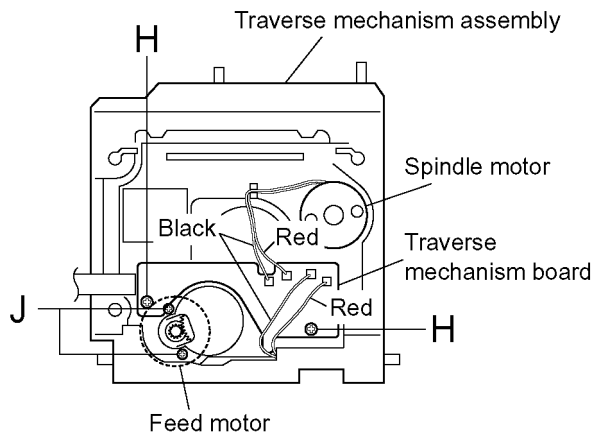

Fig.2-29
2.3.7 Removing the traverse mechanism board (See Fig.2-29 .)
2.3.8 Removing the feed motor (See Fig. 2-29.)